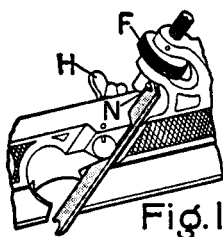

Fig. 1
Fig. 1—CUTTERS—To insert a cutter, loosen Cutter Bolt (H) and place cutter in position with slot on Pin (N). Adjust by means of Adjusting Nut (F), then tighten Cutter Bolt (H).